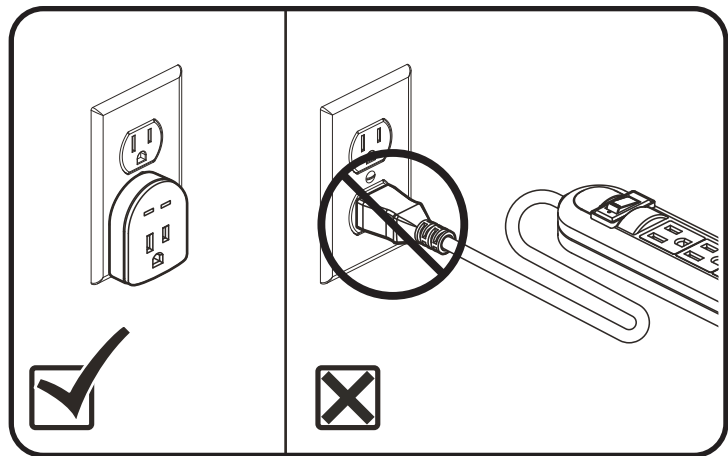

Figure 4.3 Surge Protector
- Plug the power cord directly into the electrical outlet. **Do not use an extension cord! See fig 4.3.**
- Plug the power cord directly into the electrical outlet. **Do not use an extension cord! See fig. 4.3.**